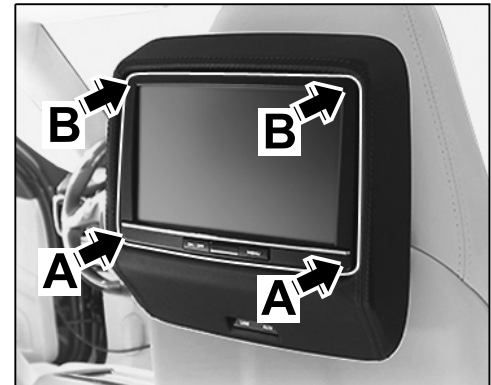

Figure 25
- 7.1.1 Press the display unit inwards by pressing on the outer area of the chrome strip with both thumbs ⇒ *Figure 25 -A-* until the slot is accessible.
- 7.1.2 Insert a CD/DVD ⇒ *Figure 26-9-* so that the printed side is facing you. Once the DVD/CD is inserted fully, swivel the display unit ⇒ *Figure 25-B-* back. The CD/DVD starts playing. Press the Menu button on the console if necessary and select **SOURCE**, then **DISK**.
- 7.1.5 Press the display unit inwards by pressing on the outer part of the chrome strip with both thumbs ⇒ *Figure 25-A-* until the slot is accessible. Press the eject button ⇒ *Figure 26-8-*, remove the DVD/CD and swivel back the display unit ⇒ *Figure 25-B-*.